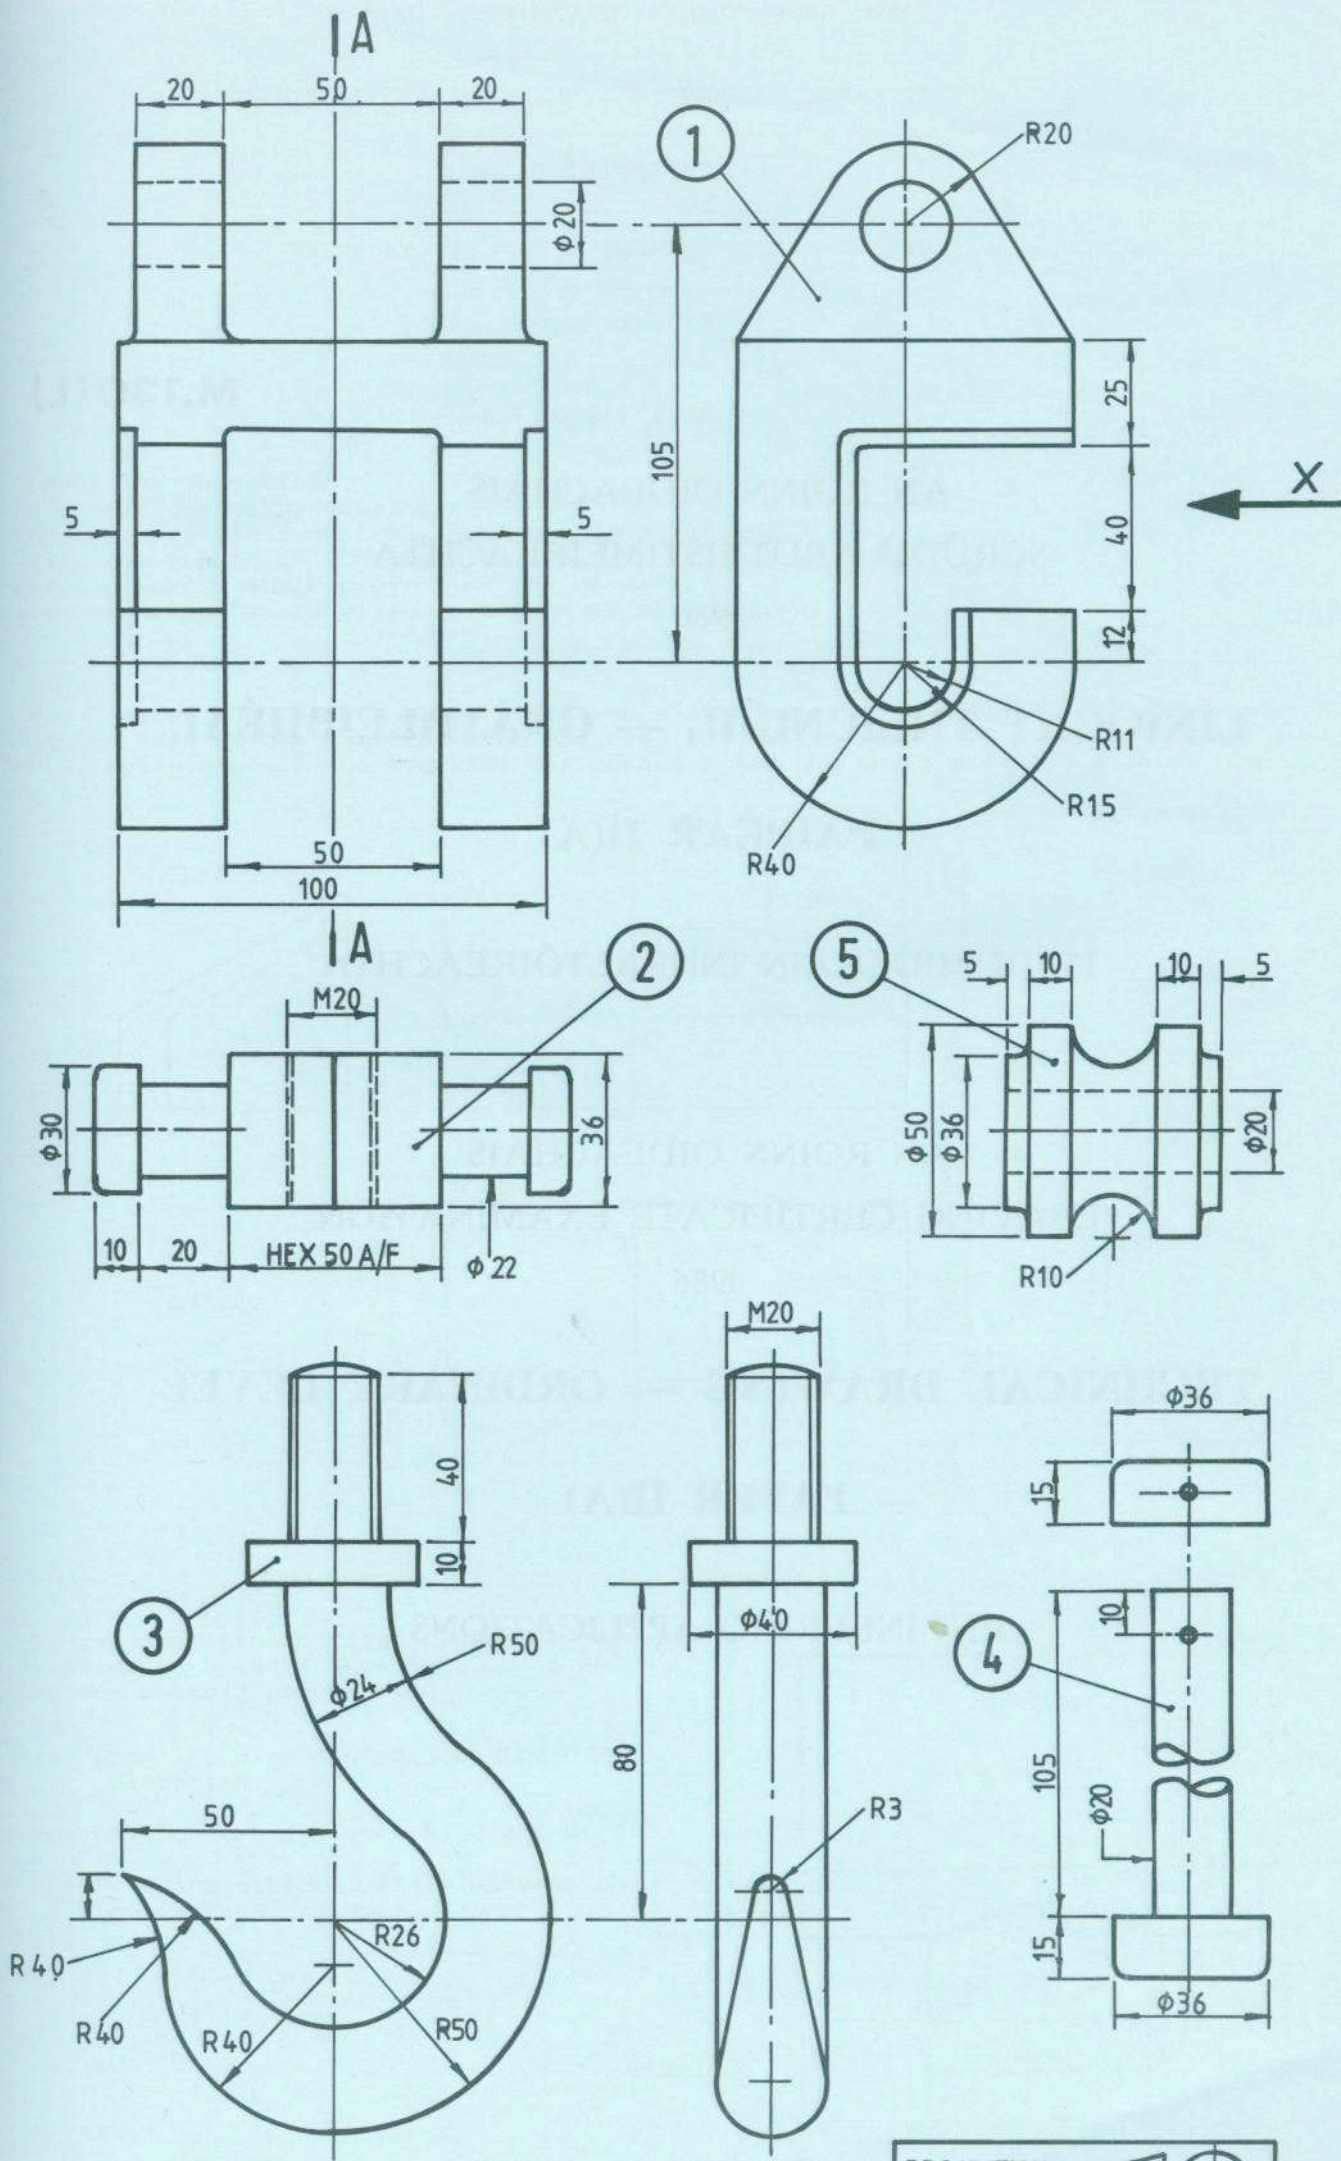

FIG.1
1. Details of a Pulley/Hook Assembly are given in Figure 1 with parts list tabulated below.